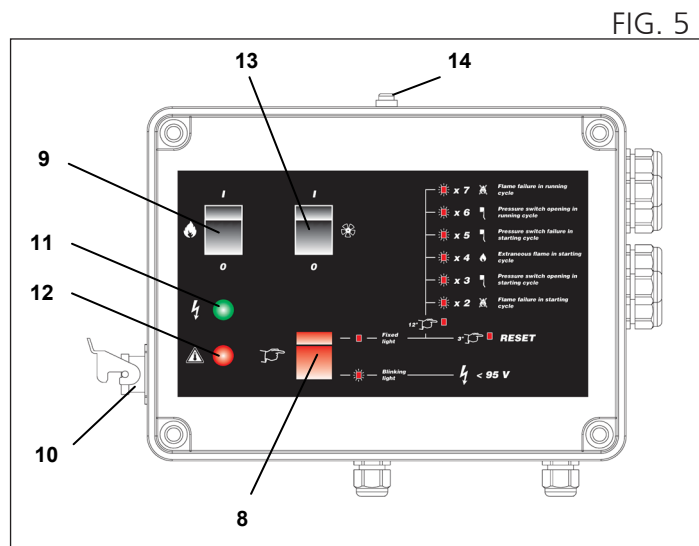

FIG. 5
- Check switch (9) and (13) are on "0" (REFER to FIG. 5)
- If lamp (#14 FIG. 5) lights up, then reverse polarity
- Make sure switch (#9 FIG. 5) is on "0";
- If the unit is operated manually (without any thermostat or any other control device) turn the switch (9) to position "1". The burner starts up, the combustion chamber heats up and then the fan starts;
- If the unit operates automatically (being connected to any thermostat or any other control device) turn the switch (9) to position "1" and set the room thermostat at the desired level: the heater will now start and stop automatically.
By the switch (#13 FIG. 5) on control panel, select the post-ventilation mode, that is the time the fan goes on blowing air when unit is switched off:
- When switch (#13 FIG. 5) is on pos. "0" then post ventilation lasts for 30 sec.
- When switch (#13 FIG. 5) is on pos. "1" then post ventilation is continuous.
In manual operation turn switch (#9 FIG. 5) to "0" or turn thermostat control knob off.
Finally, close the gas supply on/off valve, close the shut-off valve (f) and turn off the sectioning switch (Fig. 5).
To obtain the ventilation function only, make sure switch (#9 FIG. 5) is on position "0" and then simply turn the switch
(#13 FIG. 5) to position "1". To stop it, turn the switch to position "0".
Whichever the reason, the unit only tries to restart once. If the cause of malfunction remain, the unit definitively stop and lamp (8# FIG. 5) will light up.
The heater can be restarted only by pressing the reset button (#8 FIG. 5). Nonetheless, the cause that triggered the safety device should always be carefully analyzed and resolved before restarting the generator (cfr. "FAULTS, CAUSES AND REMEDIES").